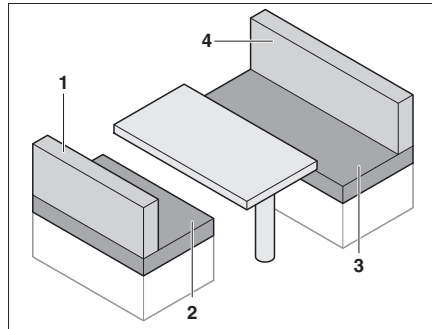

Fig. 79 Prior to conversion
- Remove the back cushions (Bild 79,1 and 4).